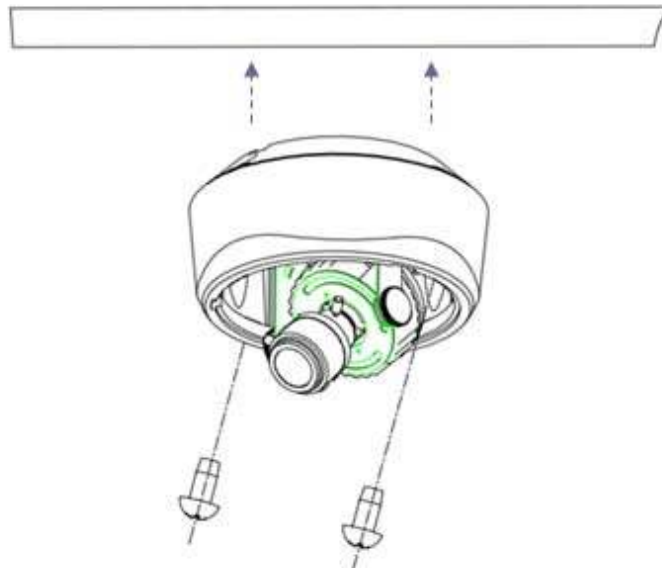

Figure 2.2.2 Secure Back Box to the Wall
2. By referring to the Figure 2.2.2, use the self-tapping screws to secure the back box of dome camera to the wall.